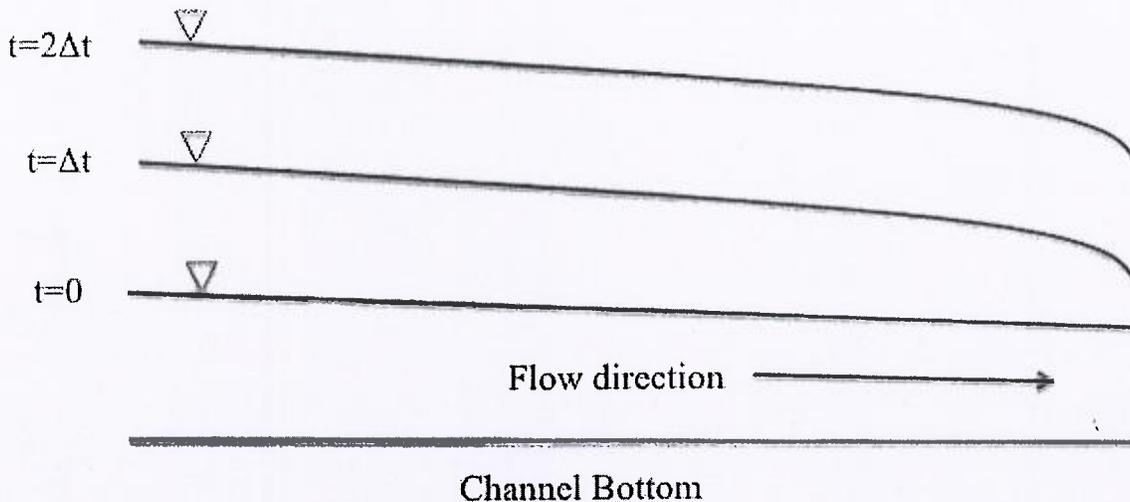

Figure 5. Water surface profile at times  $t = 0$ ,  $t = \Delta t$ , and  $t = 2\Delta t$  in rectangular channel after sudden closure of sluice gate.
5. A sluice gate is closed suddenly downstream of a rectangular channel. During a brief period of time after the closure of the gate, the upstream water surface profile at times  $t = 0$ ,  $t = \Delta t$ , and  $t = 2\Delta t$  (indicated in Figure 5) are observed. Based on the appearance of the water surface profiles in Figure 5, discuss whether the kinematic wave model or the dynamic wave model would be more appropriate to describe the hydraulic conditions in the channel. Structure your answer in terms of the mathematical terms in one of these models as well as key concepts such as steady flow, unsteady flow, uniform flow, non-uniform flow, momentum, inertia, compressibility and any other relevant concepts.